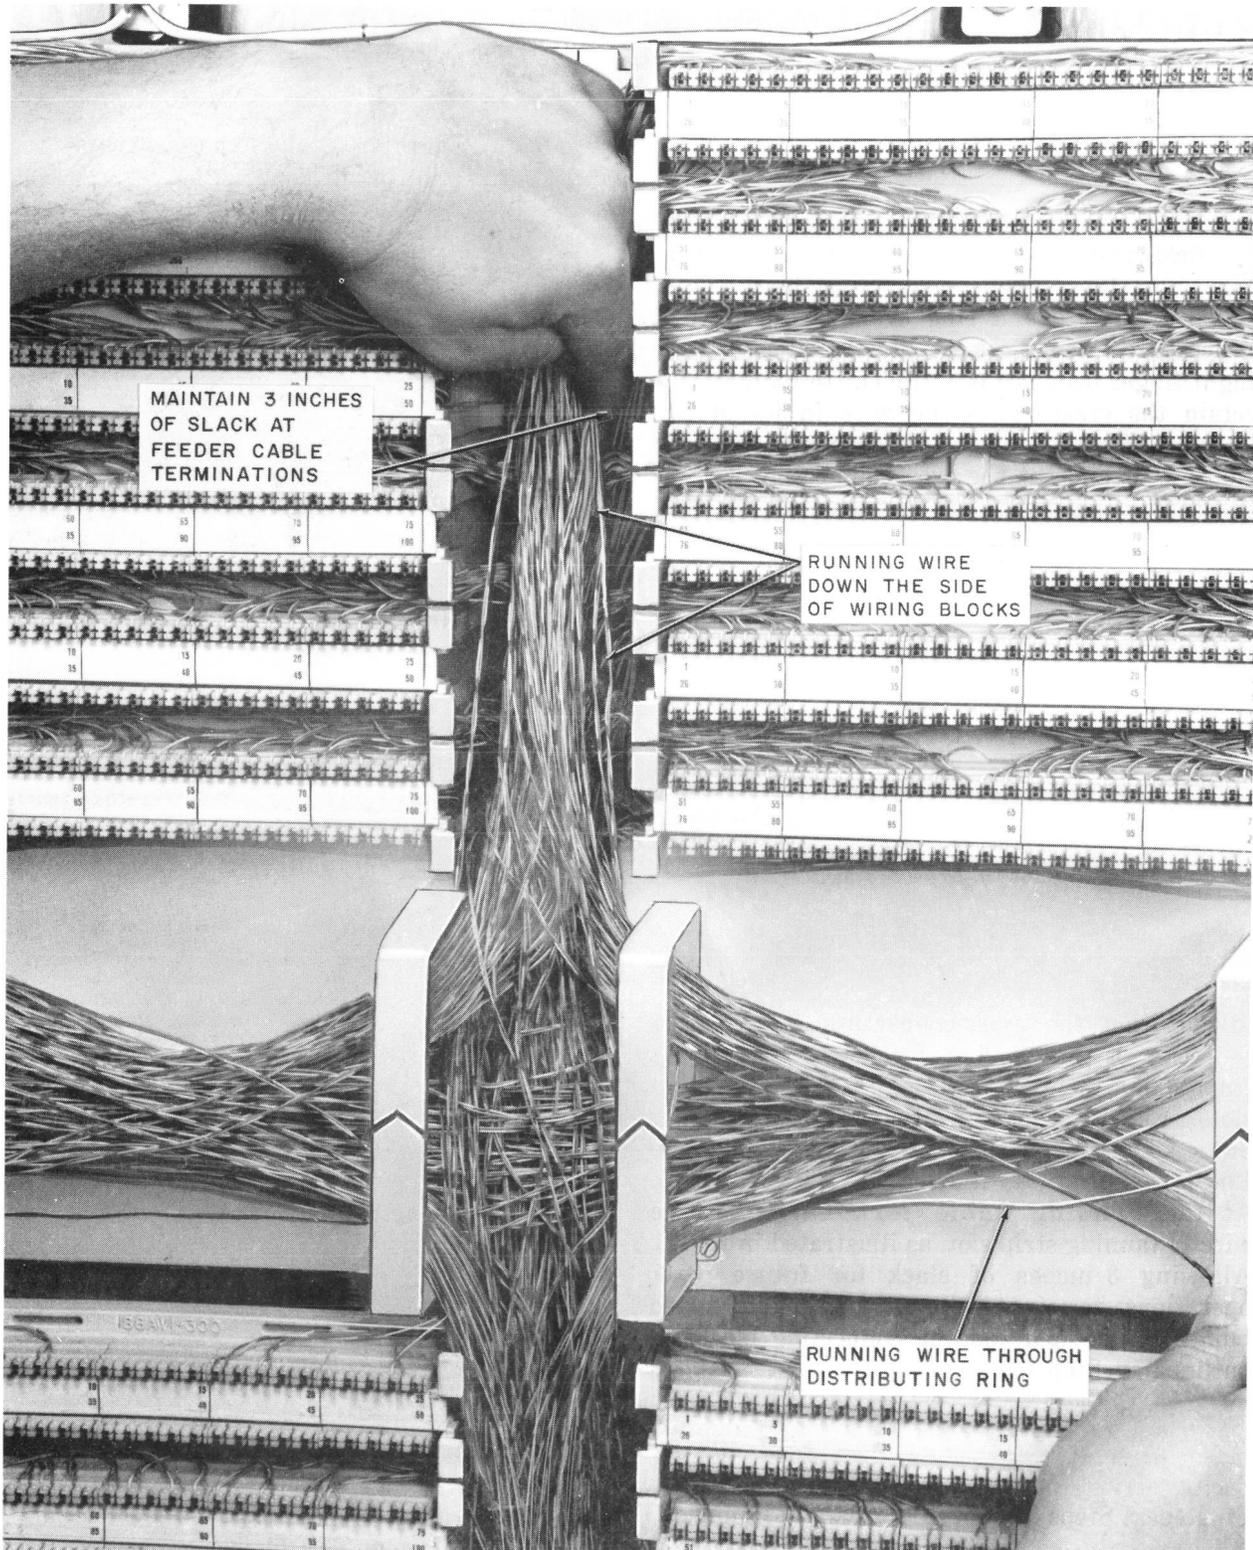
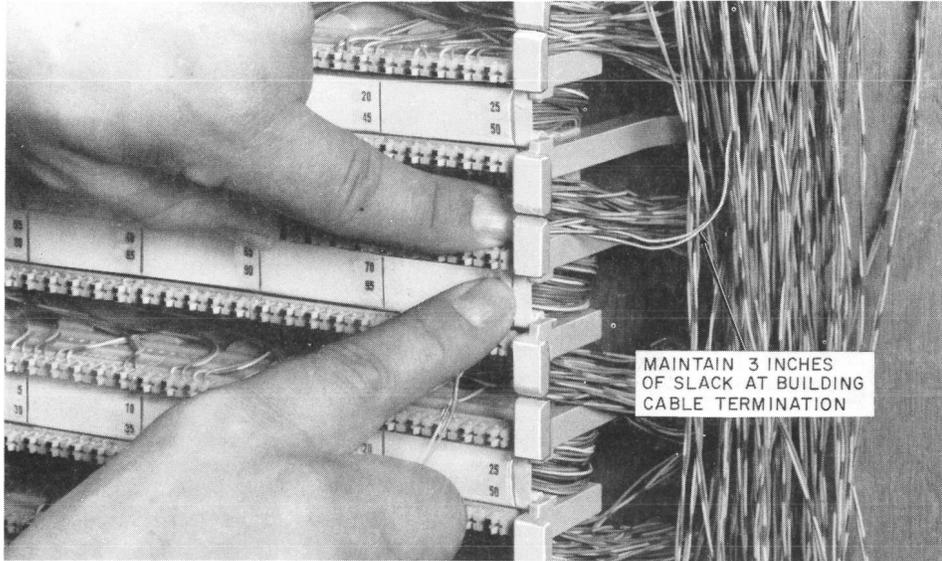

Fig. 4—Positioning Cross-Connecting Wire
Fig. 6—Positioning F Cross-Connecting Wire to Assigned Building Cable Pair
- (b) Position the cross-connecting wire to the rear of the wiring block, in the wiring trough, and then route through the fanning strip slots. Run the wire down the side of the wiring block and through the distributing ring on the 188B1 backboard, as illustrated in Fig. 4 and 5. At the **building cable terminations** place wire in fanning strip slot, as illustrated in Fig. 6. Allowing 3 inches of slack for future work operations, terminate the wire to the assigned building cable pair on the connecting block, as outlined in Step (a).